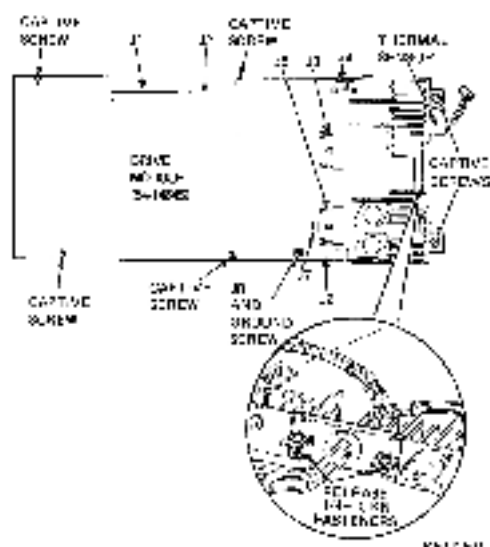

Figure 4-16 Drive Module
2. Release cable connectors at drive module jacks J1 (control), J2 (controller read/write), J3 (jump read/write), J4 (control panel), J5 (spindle control), J6 (power), J7 (power), and J8 (grounds) (Figure 4-16). Release heat sink thermal sensor connector leading to cooling fan.
3. Unscrew, but do not remove, six captive screws (Figure 4-16).
5. Free the dc power cable harness by releasing two 1/4-turn fasteners that secure the cable retaining bracket to the heat sink (Figure 4-16).
2. Lay drive module down onto the module tray. Make sure insulator is in place and secure it to module tray with six captive screws and grounding screw at J8 (Figure 4-16). Make sure grounding screw is secured tightly. Intermittent errors can result if this screw is loose.
3. Plug appropriate cable connectors into jacks J1, J2, J3, J4, J5, J6, J7, and J8 of drive module (Figure 4-16). Plug heat sink thermal sensor connector into ceiling fan connector.
Perform this step for slave drive only. On the drive module, remove cable connectors at jacks J1 and J2 (Figure 4-16). Jacks J1 and J2 are the lock/eject type. Grasp two tabs at ends of jack and rotate out. This releases cable connector.
Perform this step for slave drive only. On the drive module, plug in cable connectors at jacks J1 and J2 (Figure 4-16). Jacks J1 and J2 are the lock/eject type. Push cable connector in as far as it will go without forcing. Then grasp two tabs at ends of jacks and rotate in. This seats cable connector.
Perform this step for slave drive only. On the drive module, plug in cable connectors at jacks J1 and J2 (Figure 4-16). Jacks J1 and J2 are the lock/eject type. Push cable connector in as far as it will go without forcing. Then grasp two tabs at ends of jack and rotate in. This seats cable connector.
3. Disconnect cables at drive module J3, J4, and J5 (Figure 4-16). Allow them to pass through cutouts in drive module.